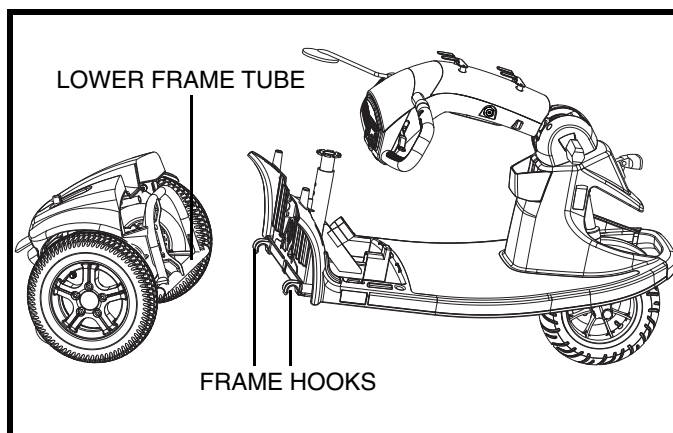

Figure 26. Frame Separation
4. Lift the front section up until the frame hooks of the front section separate from the rear section. **See figure 26.**
5. Slowly separate the two sections. **See figure 26.**
1. Position the front and rear sections of your scooter as shown in **figure 26**.